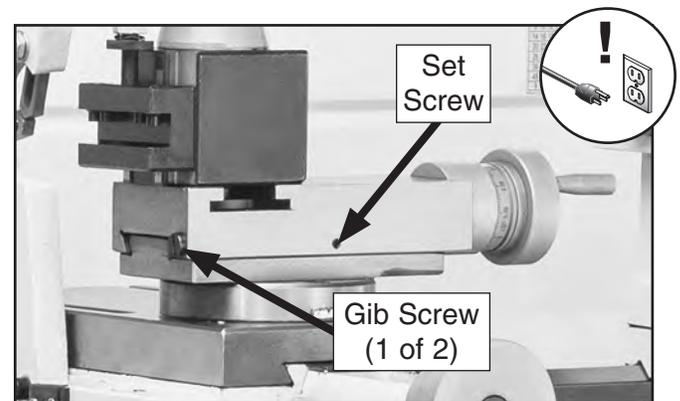

Figure 108. Cross slide gib components.
2. Loosen locking set screw (see **Figure 108**).